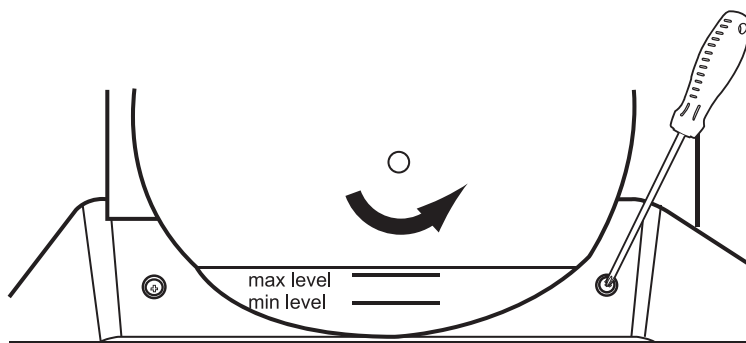

Fig. 9
Use the screws which have already been inserted in the housing (on the right and left next to the cutting disc). Remove these screws and position the protective cover (11) so that it fits the mounting hole above the cutting disc. Secure the position of the protective cover by inserting the screws and tightening them as shown in Fig. 9 . Use the washers.